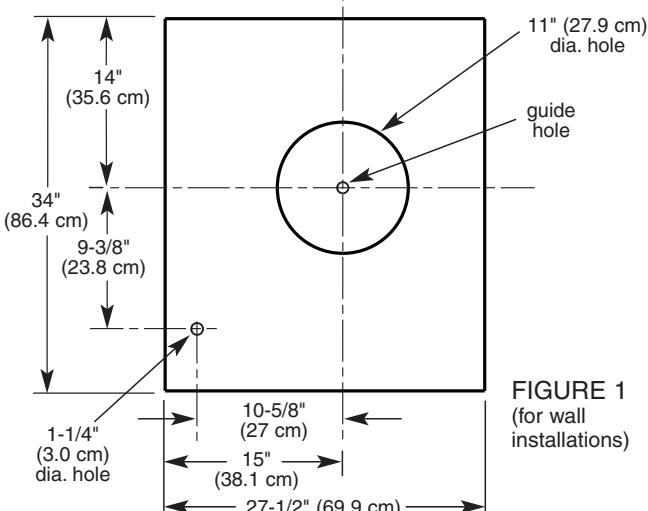

FIGURE 1
3. Mark a 27-1/2" x 34" (69.9 x 86.4 cm) rectangle on wall as indicated in FIGURE 1.
5. Mark an 11" (27.9 cm) diameter circle around Guide Hole as indicated in FIGURE 1. Mark center of the 1-1/4" (or 3.0 cm) diameter hole for electrical wiring as indicated in FIGURE 1.
Use dimensions from either FIGURE 1 or 2 (Page 3) to locate the 1-1/4" (3.0 cm) dia. wiring hole.